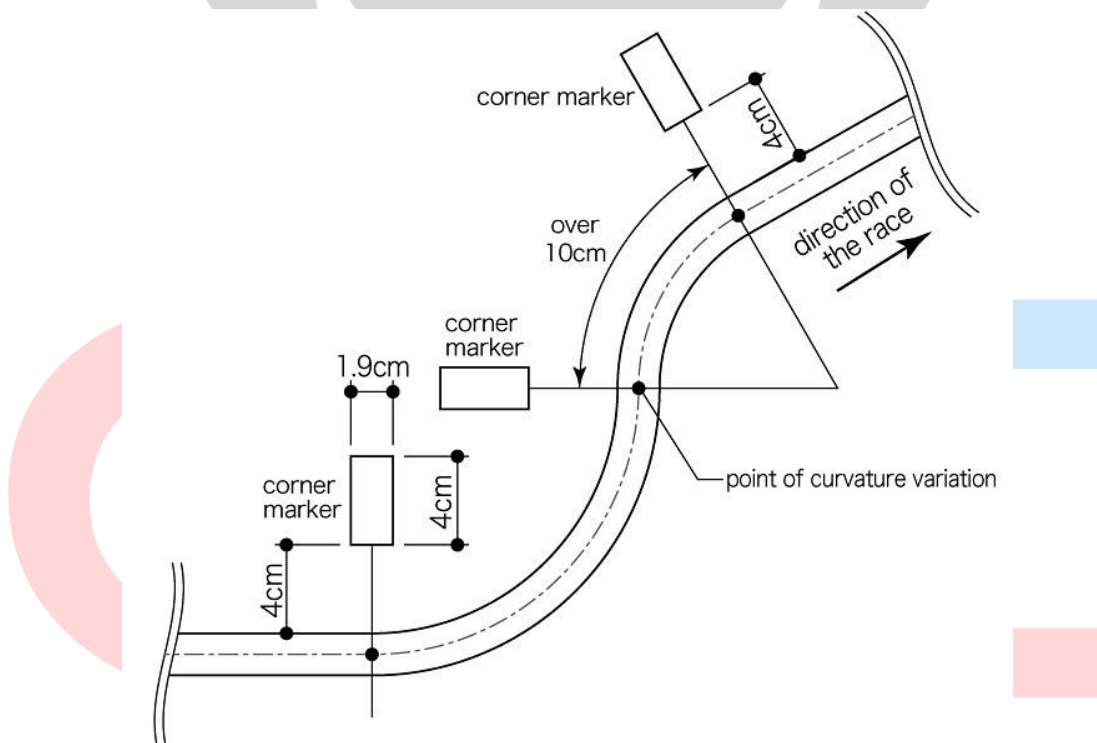

Fig. 4: Points where the curvature of the course changes and corner marker
6. In some cases, the arc of varying curvature comes up continuously. (see fig. 4)